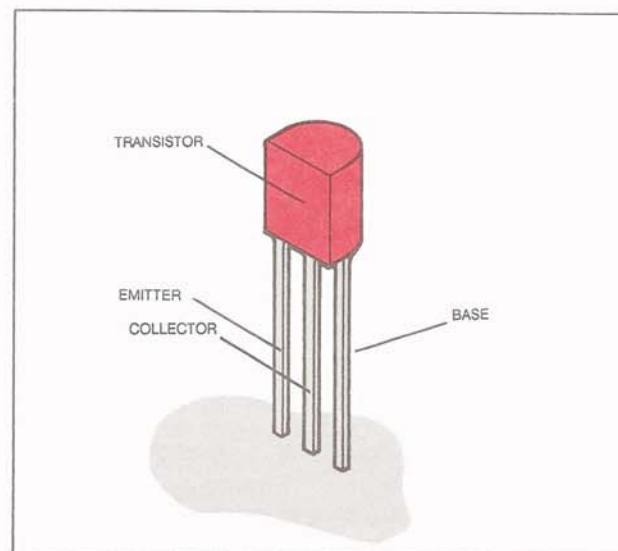

FIG. 29
5. Tin the leads of transistor Q17 and then solder it into the circuit, observing proper lead positioning (See Fig. 29).